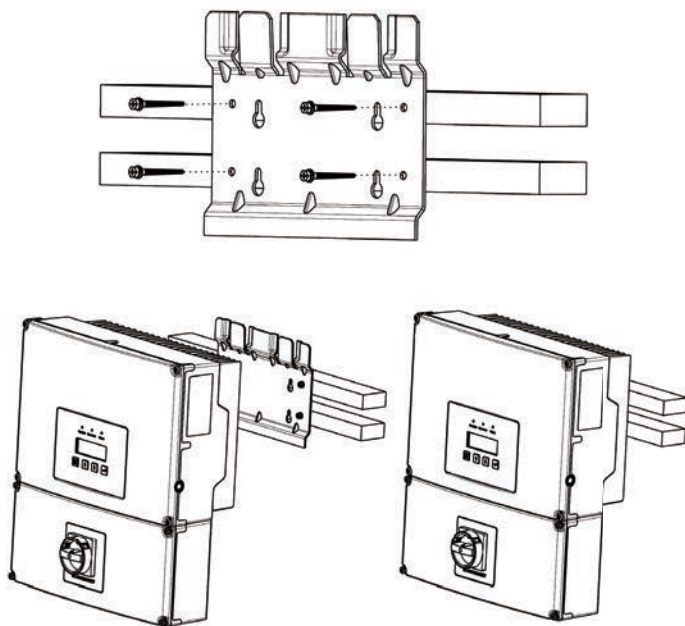

Figure 15: Installing the mounting bracket and inverter on a wooden stud wall.
5. With two people, lift up the inverter and place it carefully onto the mounting bracket. Install two locking nuts as shown in Figure 15 to secure the device.